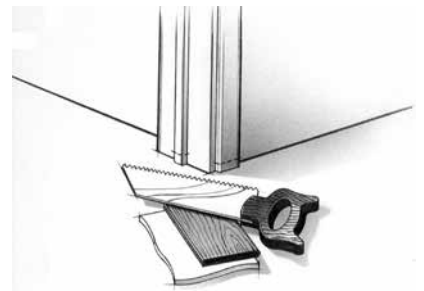

Fig. 1
2. Door trims and doorjamb must be undercut to allow the floor to move freely. Use a discarded piece of floor to support the saw blade at the correct height for undercutting (Fig. 1).